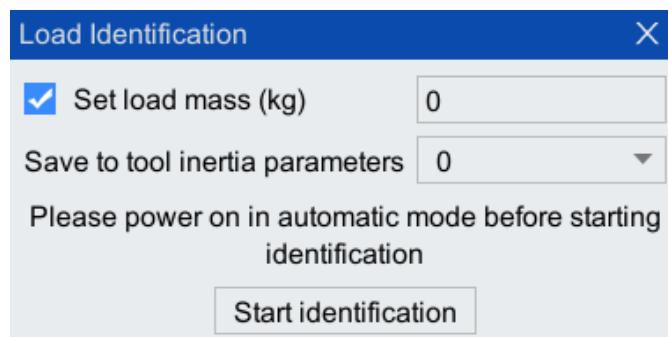

Figure 4-13 Load parameter identification configuration interface
Step3. Click the <Identify> button, and the configuration interface shown in Figure 4-13 will pop up.